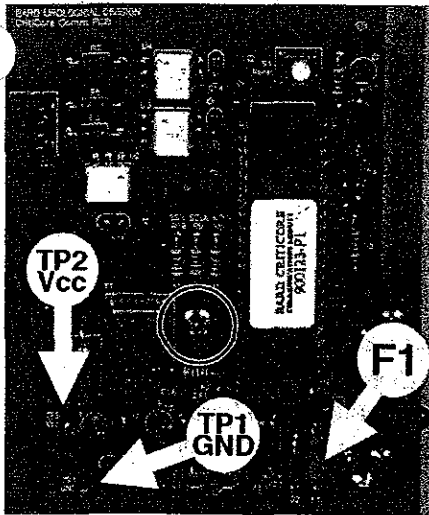

Figure 82
3. Disconnect the *CritiCore Monitor* and the Communications Module from their respective power supplies. Locate fuse F1 on the Communications Module (see Figure 82) and connect an ohmmeter across F1.